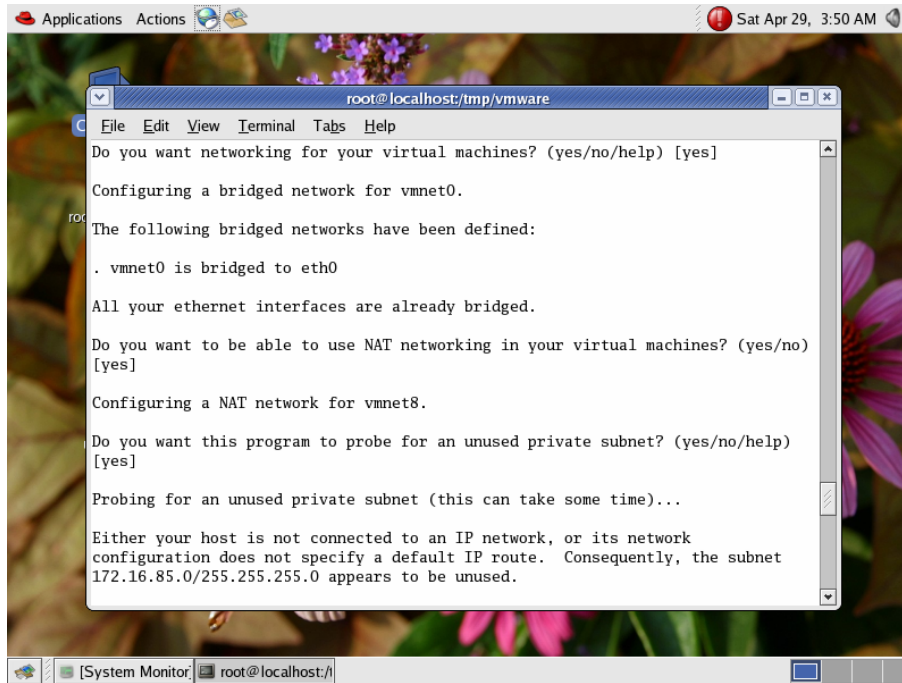

Figure 6-8
12. As shown in Figure 6-8, configure the networking for your virtual machines.